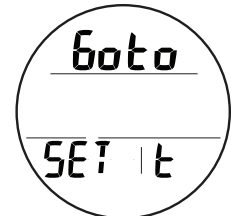

Fig. 23 - SET T LEAD-IN
**Set T Lead-in**, information includes (Fig. 23):